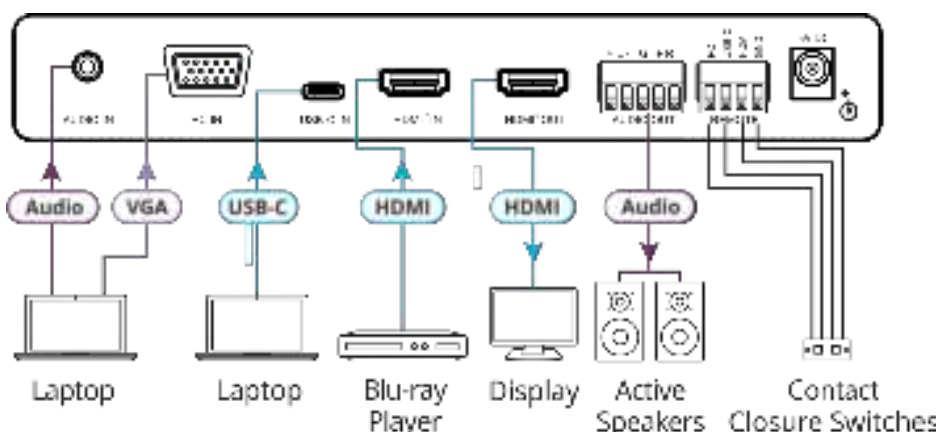

Figure 5: Connecting to the VP-426C Rear Panel
To connect the VP-426C as illustrated in the example in Figure 5:
- The unbalanced stereo audio PC source to the AUDIO IN 3.5mm mini jack ⑪.
- The VGA signal to the PC 15-pin HD connector ⑫.
2. Connect a USB-C source (for example, a laptop) to the USB-C port ⑬.
3. Connect an HDMI source (for example, a Blu-ray player) to the HDMI IN connector ⑭.
4. Connect the HDMI OUT connector ⑮ to an acceptor (for example, a display).
5. Connect the AUDIO OUT 5-pin terminal block connector ⑯ to a balanced stereo audio acceptor (for example, Kramer **TAVOR 6-O** active speakers).
6. Connect the REMOTE 4-pin terminal block connector ⑰ to contact closure switches (for example, Kramer **RC-22TB**).
7. Connect the power adapter to the **VP-426C** power connector ⑱ and to the mains electricity (not shown in Figure 5).
To connect the VP-424C as illustrated in the example in Figure 5:
1. Connect a USB-C source (for example, a laptop) to the USB-C port (13).
2. Connect an HDMI source (for example, a Blu-ray player) to the HDMI IN connector (14).
3. Connect the HDMI OUT connector (15) to an acceptor (for example, a display).
4. Connect the REMOTE 4-pin terminal block connector (17) to contact closure switches (for example, Kramer **RC-22TB**).
5. Connect the power adapter to the **VP-424C** power connector (18) and to the mains electricity (not shown in Figure 5).